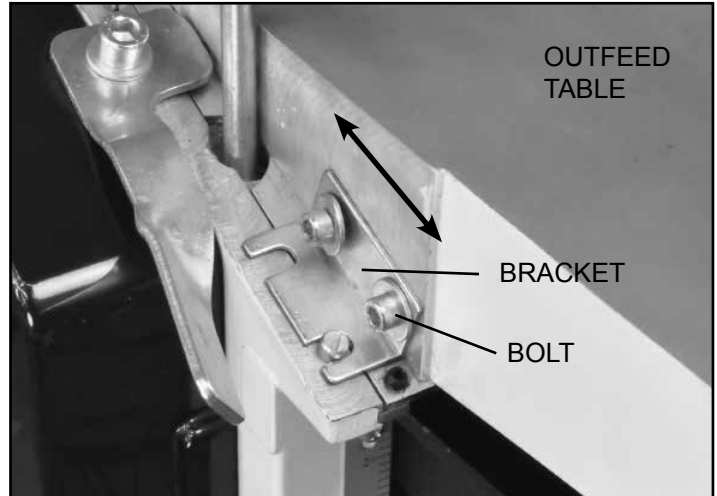

FIG. 19
5. To adjust the HEIGHT of the table, loosen the hex Bolts that fasten the Brackets (#158) to the side of the outfeed table. Carefully slide the table forward or backwards to change the table height. FIG. 19. Re-fasten the bracket's hex bolts once the two tables are level with each other.